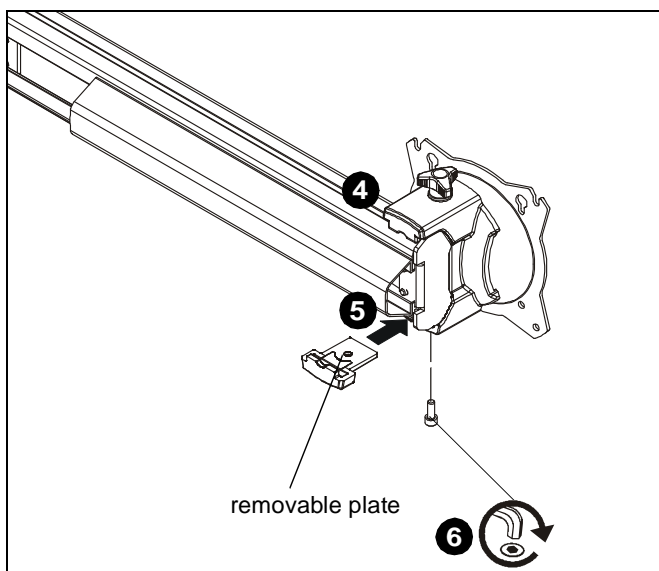

Figure 21
4. Place faceplate assembly on array arm at desired mounting position. (See Figure 21)
5. Slide removable plate back into slot at bottom of faceplate assembly. (See Figure 21)
6. Reinstall hex head bolt removed in Step 1 to secure faceplate assembly to array arm. (See Figure 21)